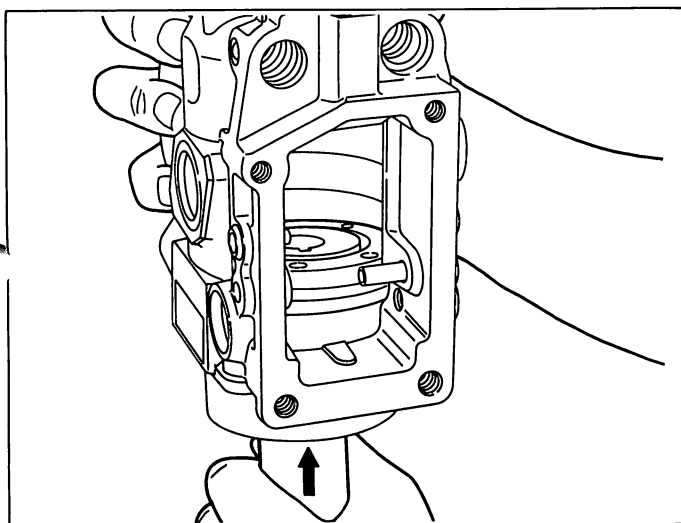

Fig. 39 Installing the feed pump assembly
4. Slide the injection pump housing over the feed pump assembly and cover positioned on the feed pump holder. (Fig. 39)